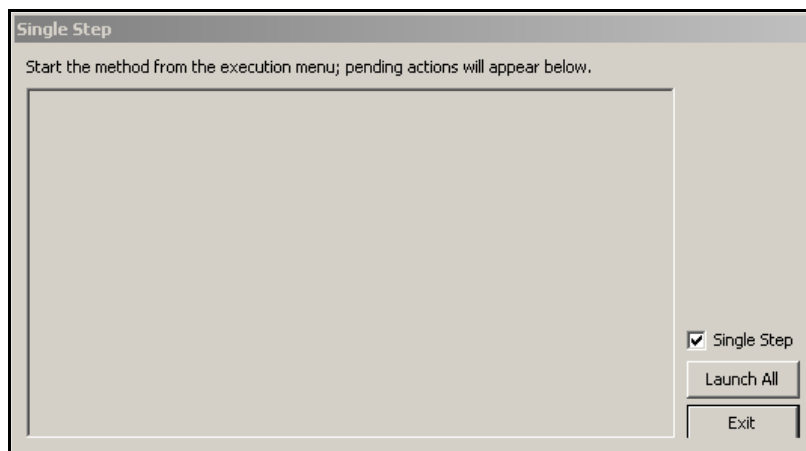

Figure 2-19. Single Step
1. Choose **Execution>Single Step**. Single Step appears (Figure 2-19).